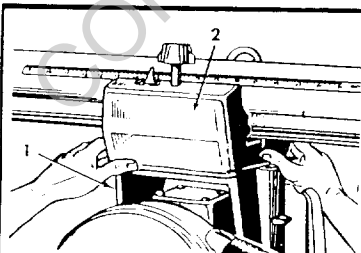

Figure 23
To test looseness in the carriage, firmly grasp the carriage (1, figure 23) at the level of the ball bearings and apply a firm rocking motion.
3. Remove left hand carriage cover (2, figure 23).